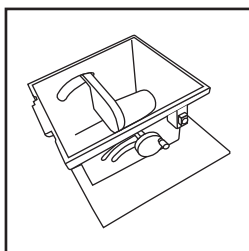

Fig. 2
- Invert the main body of the machine and place on a clean, secure and sturdy workbench or similar **(Fig. 2)**.